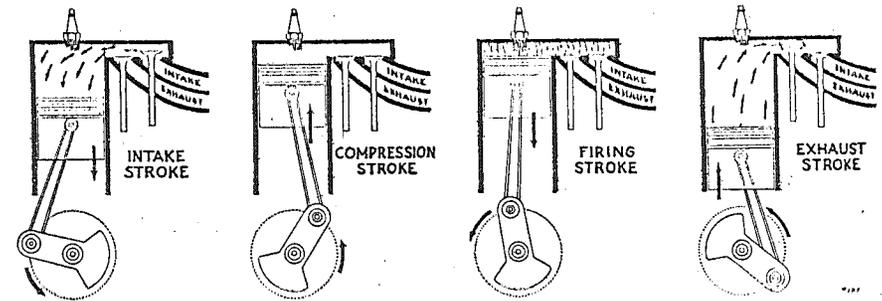

Fig. 5.
33. In our 4-cycle motor the events are indicated in Fig. 5. On the intake stroke (illustration at the left), we have the piston going down, producing a vacuum in the cylinder, thereby drawing fuel up through the carburetor so that the space above the piston becomes filled with combustible gas. During this stroke the intake valve is open. In the next illustration we find the piston coming up on the compression stroke with both valves closed. At the top of the compression stroke a spark occurs at the spark plug, firing the gas. This produces an explosion above the piston which forces it down on the firing stroke. Both valves are closed on the firing stroke. On the next upstroke of the piston, the exhaust stroke, with the exhaust valve open, the burned gas is driven out.